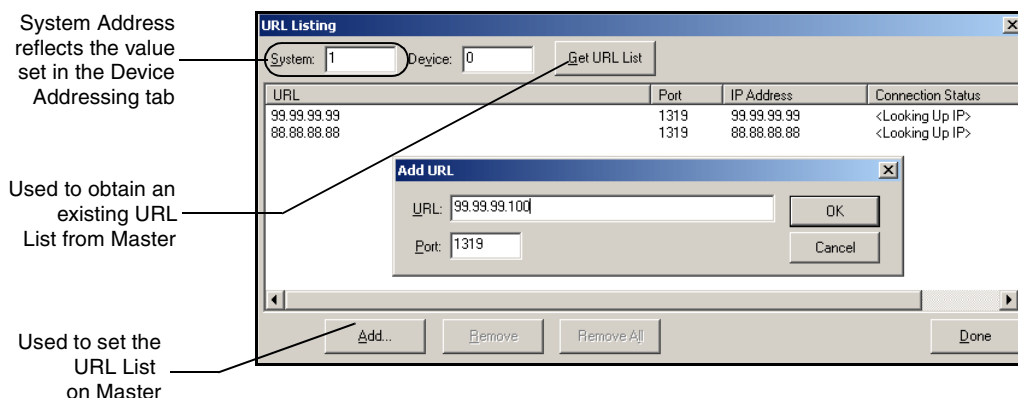

FIG. 71 URL List dialog
6. Select **Diagnostics > URL Listing** from the Main menu (FIG. 71).